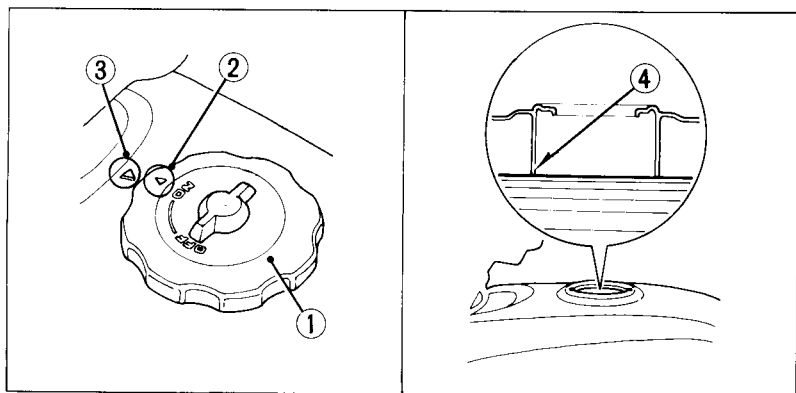

Fig. 4-2
To refuel, remove the fuel tank cap (Fig. 4-2) by twisting it counterclockwise. Do not overfill (make sure there is no fuel in the filler neck). After adding fuel, tighten the fuel tank cap firmly by turning it clockwise. Align the arrow (2) on the cap with the reference mark (3) on the fuel tank. Align the arrow (2) on the cap with the reference mark (3) on the fuel tank.